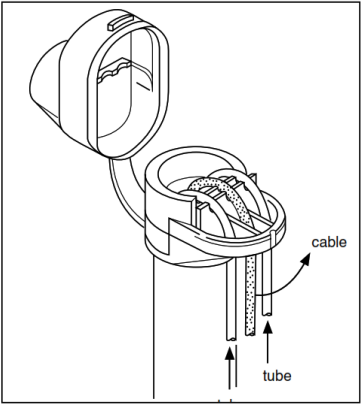

Figure 12. Tubing and cabling leads
7. a. Slightly unscrew the protection cage (4) from the basic holder (3) in such a way that the 2 O-rings (8) are not in the clamping/sealing position anymore.
d. Screw the protection cage tight onto the basic holder (the fold inside will keep the basic holder in place), the 2 O-rings (8) will expand and together with O-ring (10) they form a watertight seal.
8. Pull the cable and clamp it into the middle "hole" (cut out) of the rubber cap (fig. 12). Close the rubber cap.
1. By simply unscrewing the fixing nut (10) and lifting up the basic holder from the flow vessel, the electrode is accessible for calibration or inspection.
2. To get access to the connections at the top of the basic holder, first open the rubber cap and pull the cable upward out of the middle 'hole' of the cap (see fig.12). When tubes for KCl or chemical cleaning agent are used they must be pushed upwards through the holes to create space. Then the protection hood-with cap can be easily lifted from the basic holder.
1. Guide the tube through one of the outer holes of the rubber cap (see fig. 12) and through the protection hood or immersion tube towards the basic holder. Remove the plug.
1. Guide the tube through one of the outer holes of the rubber cap (see fig. 12) and the protection hood or immersion tube towards the flow electrode.